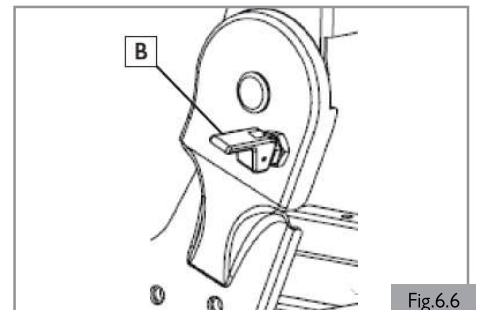

Fig.6.6
3. Locking pin lever (B) should be engaged. (Fig. 6.6)